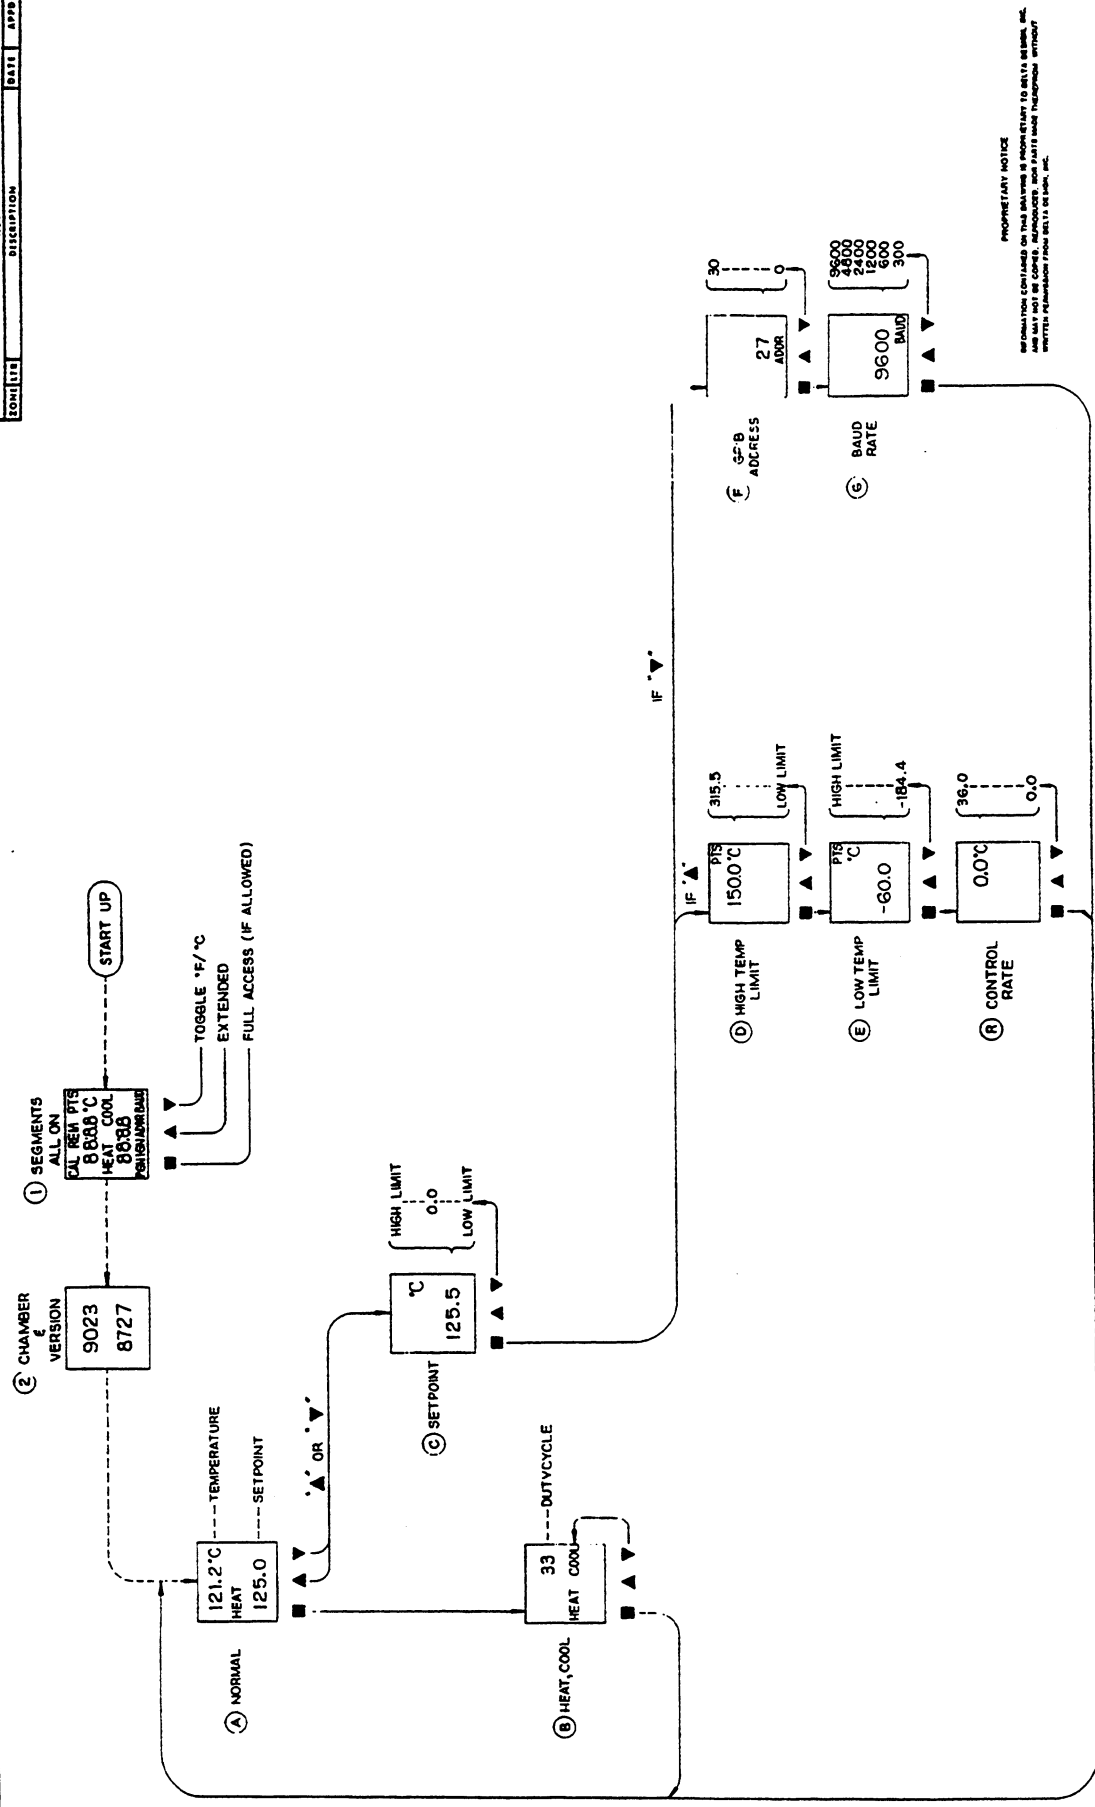

Figure 5-3. Extended Access
5.4 EXTENDED ACCESS MODE (Figure 5-3)